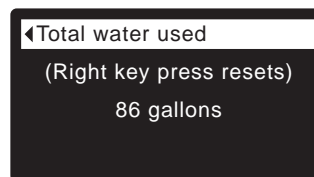

FIG. 68
6. The **Total water used** screen (See Figure 68) shows the volume of water used since it was last reset (it works like the trip odometer in a car). To reset the value to 0, press the RIGHT (►) button while this screen is displayed.